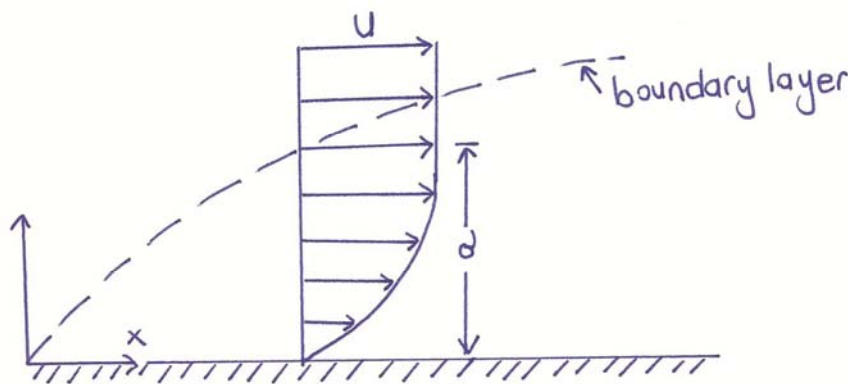

Figure 9.1. The boundary layer thickness
- **The boundary layer thickness:** is usually defined as the distance from the solid boundary where the velocity in the x -direction differ by 1 percent from the main stream velocity, U , as shown in Figure 9.1. It is a region where the flow develops. At the end of the entrance region the flow is no longer function of the flow direction and the radius of the pipe determines the velocity profile. Its length also affected by the nature of the flow. At the entrance region the fluid accelerates or decelerates.